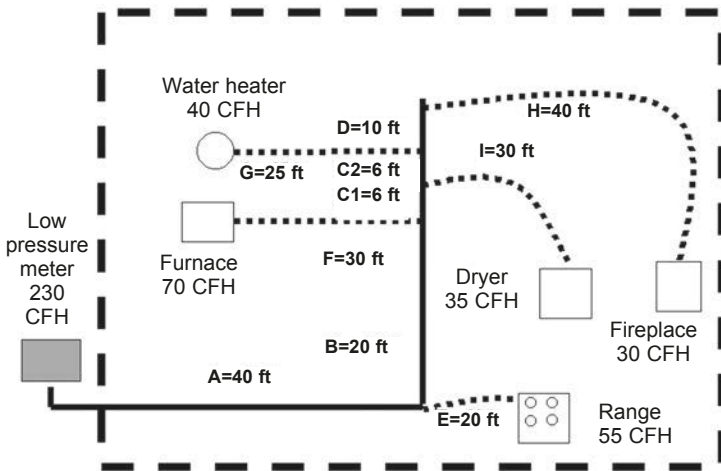
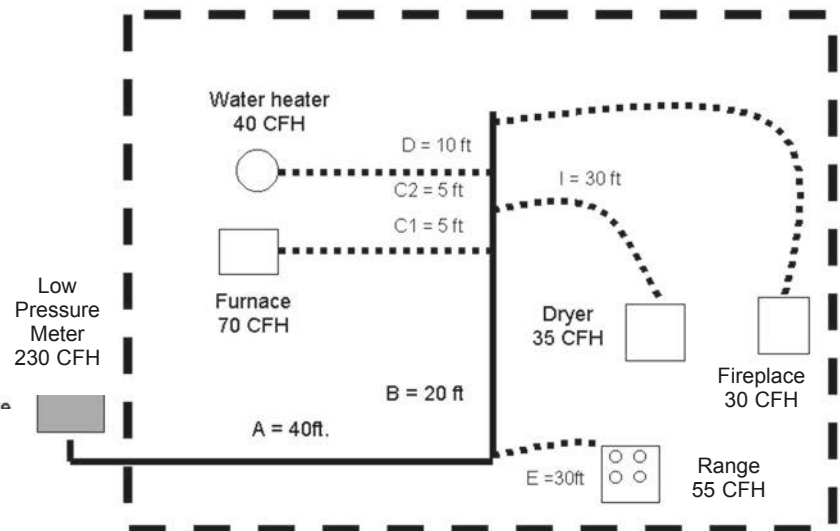

Figure: 3-6
Figure: 3-8
- The system presented in Figure: 3-6 is a typical residence with 5 appliances. The supply pressure is 7 inches w.c. The allowable drop is 1-inch w.c. total.
- The system presented in Figure: 3-8 is identical to that in Figure: 3-6, a single-family installation with 5 appliances. Low pressure 6-7 inches and a pressure drop of 0.5 inch water column. **NOTE:** In Example: 6 this system was sized using the longest run method. Here we will use the sum of pressure loss method discussed in section 3.2D.